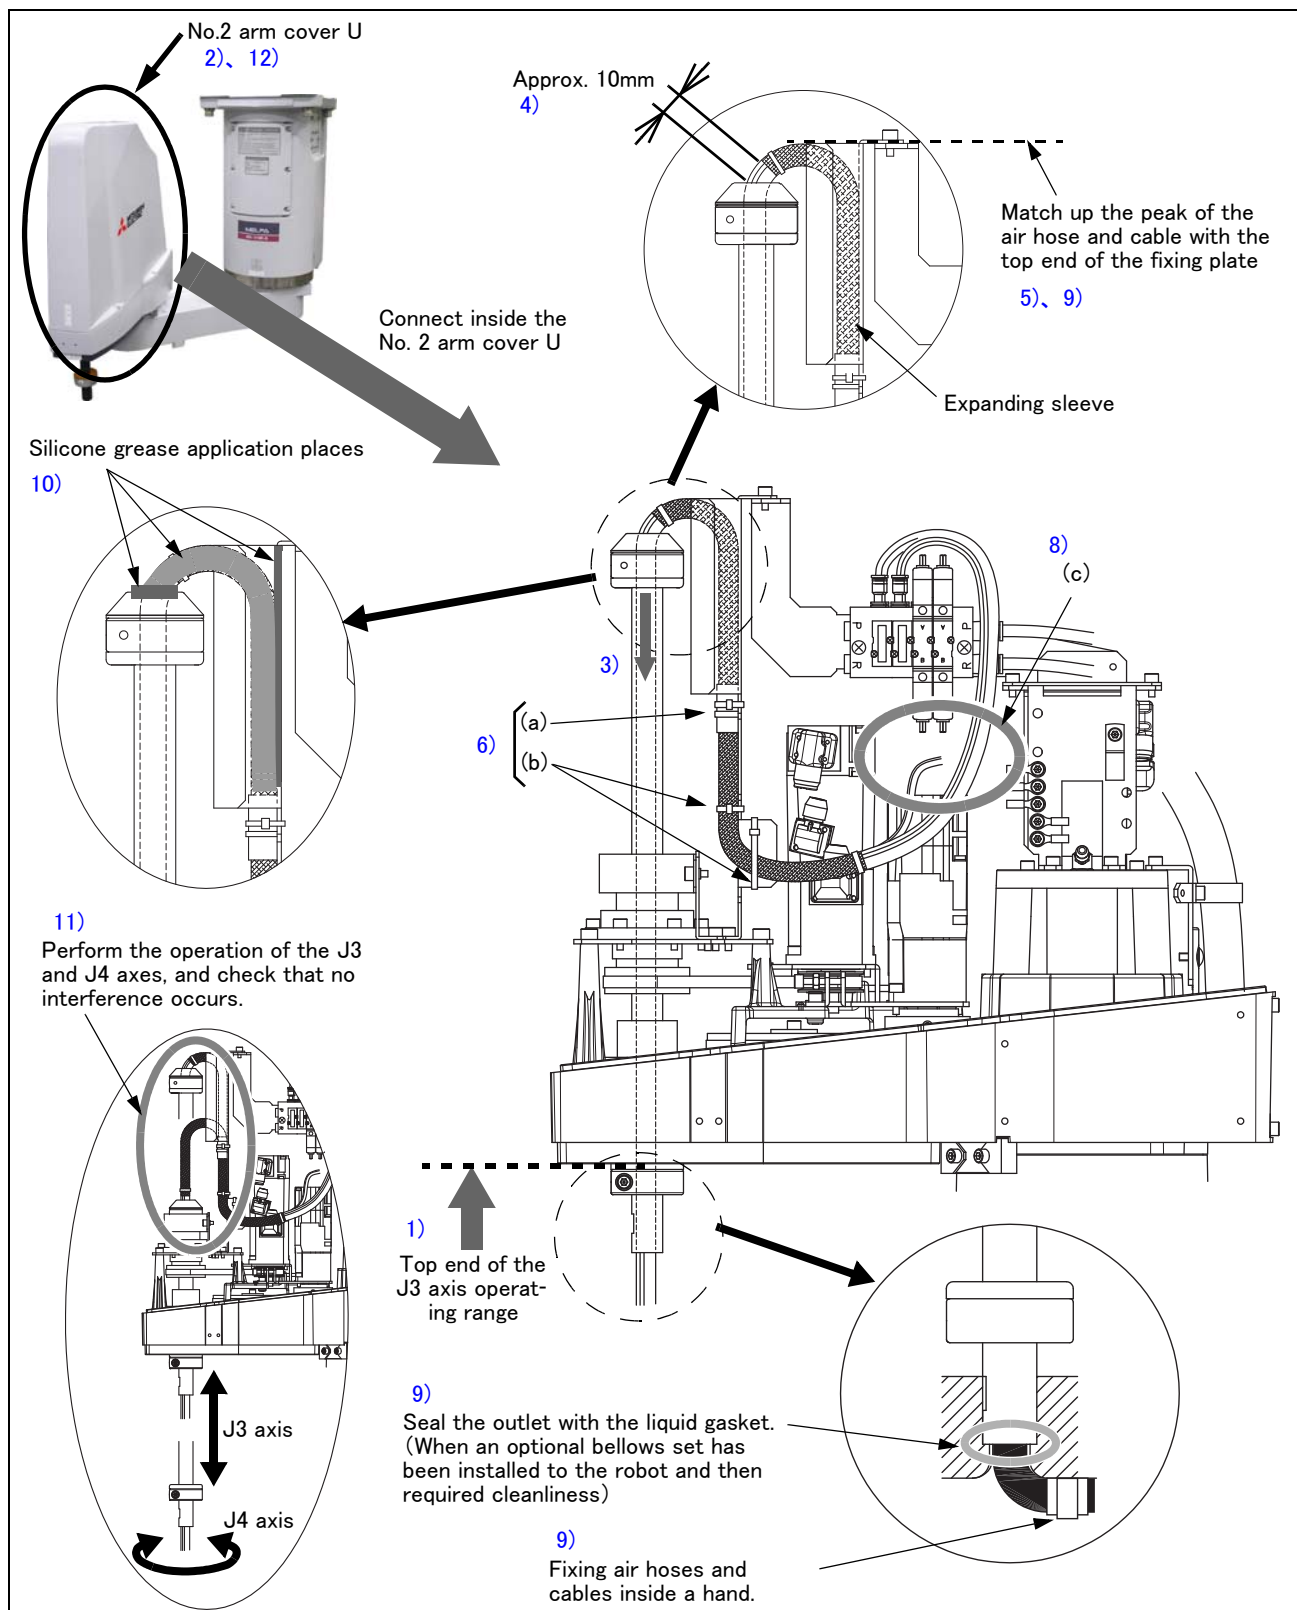

Fig.2-11 : Installation of air hoses and cables inside the robot's shaft
Refer to Page 21, "(3) Installation procedure" and install cables and air hoses correctly. The numbers in Fig. 2-11 are correspond to the same numbers in "(3)Installation procedure".